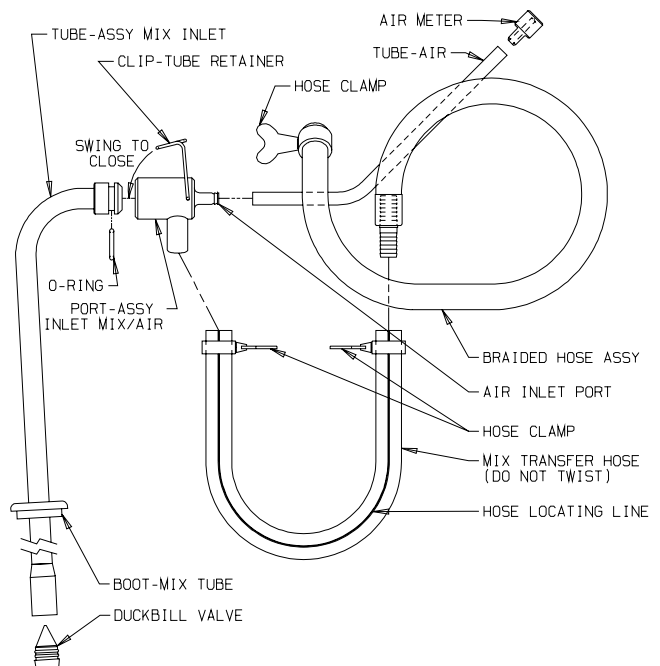

Figure 6-5 MTS Hose Assembly
13. Disassembly MTS hose assemblies as shown in figure 6-5.